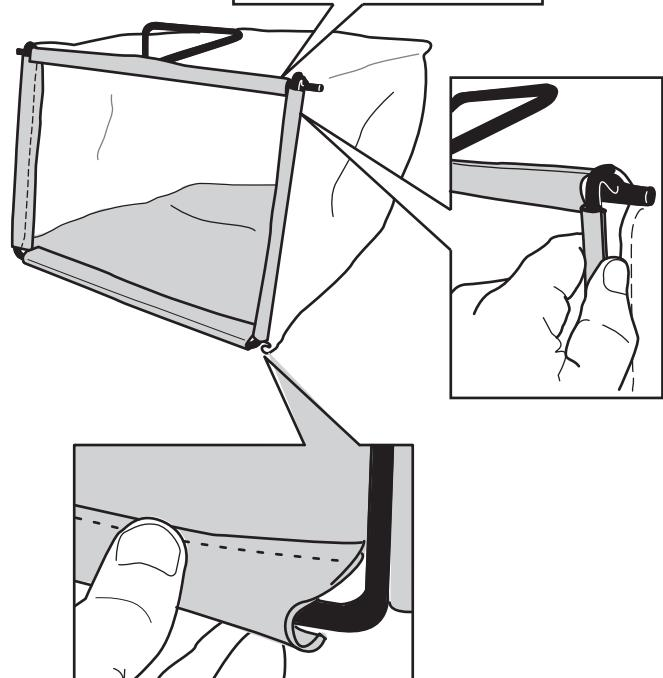

Figure 7
3. Hook the top and side channels of the bag onto the top and sides of the frame, respectively (Figure 7).
2. Hook the bottom channel of the bag onto the bottom of the frame (Figure 7).